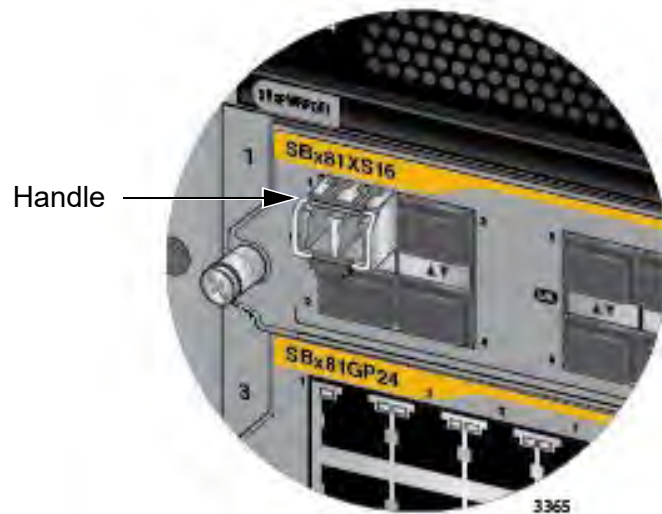

Figure 104. Verifying the Position of the Handle on the Transceiver in the AT-SBx81XS16 Line Card
4. Before connecting the cable, verify the position of the handle on the transceiver. If the transceiver is in an odd numbered slot, the handle should be in the upright position, as shown in Figure 104 on page 178. If the transceiver is in an even numbered slot, the handle should be in the down position.